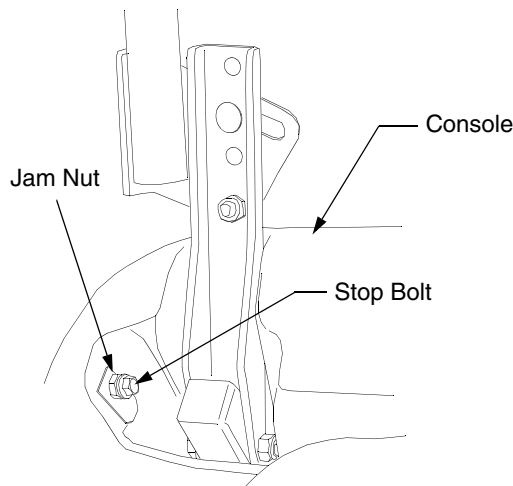

Figure 25
- Locate the applicable stop bolt on the left or right console. See Figure 25.